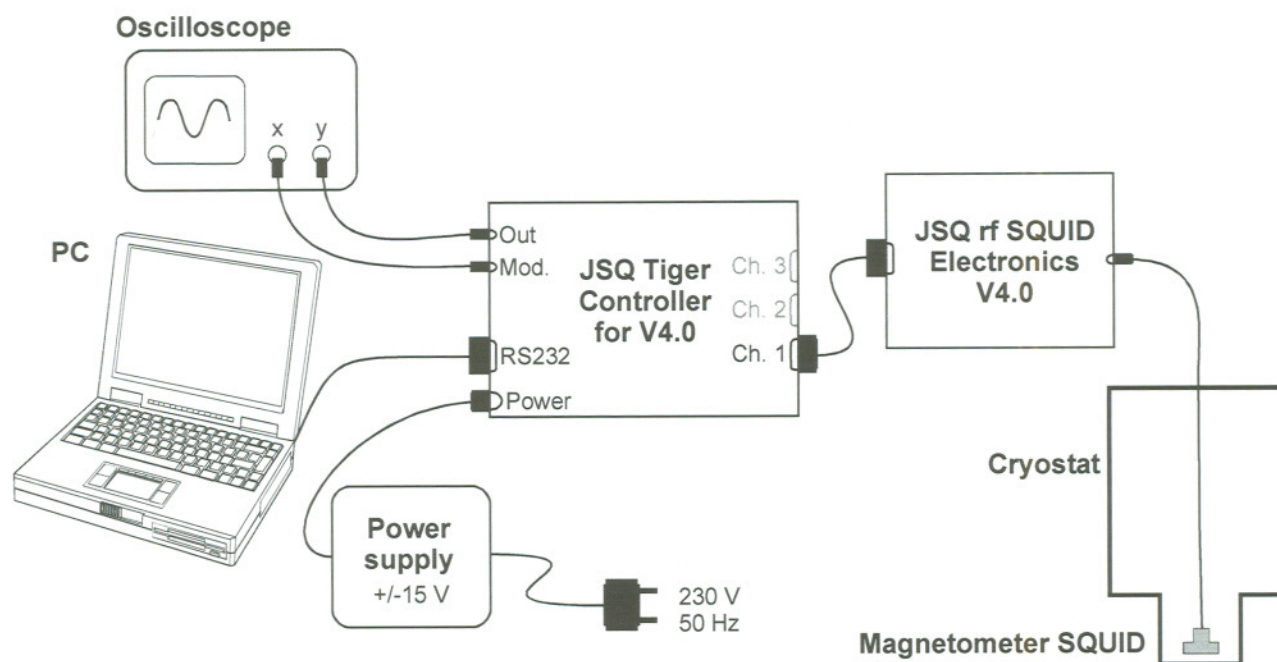

Fig. 13. Sketch of the electrical connections for SQUID operation.
Prepare all electrical connections according to Figs. 13 and 14. The power supply must not be connected to 230 V until all other cables are in place and checked carefully!
4. Make sure that all connections are made according to Fig. 13. Plug the power cable into a 230 V 50 Hz outlet.